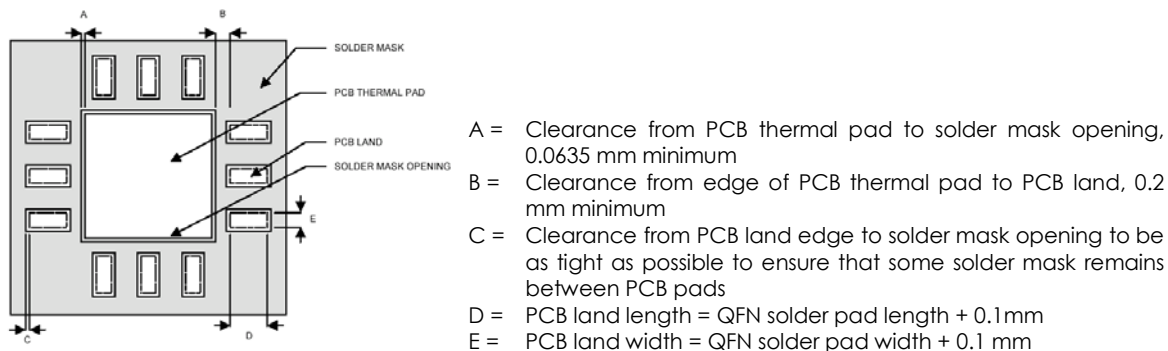

Figure 23 PCB land and solder mask recommendations
1. PCB land and solder masking recommendations are shown in Figure 23.